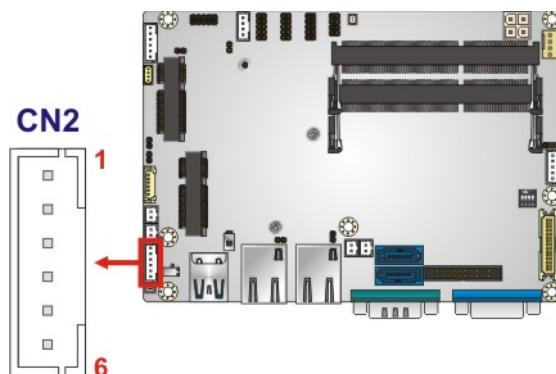

Figure 3-18: Power and HDD LED Connector Location
**Table 3-17: PCIe Mini Card Slot Pinouts****3.2.17 Power and HDD LED Connector****CN Label:** CN2**CN Type:** 6-pin wafer, p=2 mm**CN Location:** See **Figure 3-18****CN Pinouts:** See **Table 3-18**